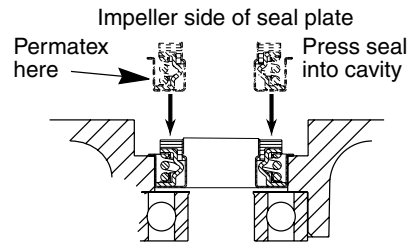

Figure 2
NOTICE: Make sure that seal faces are clean and undamaged. Apply Permatex #2 or equivalent sparingly to outside edge of seal body (with spring) Figure 2.
1. Press new seal body into cavity in seal plate (Figure 2).